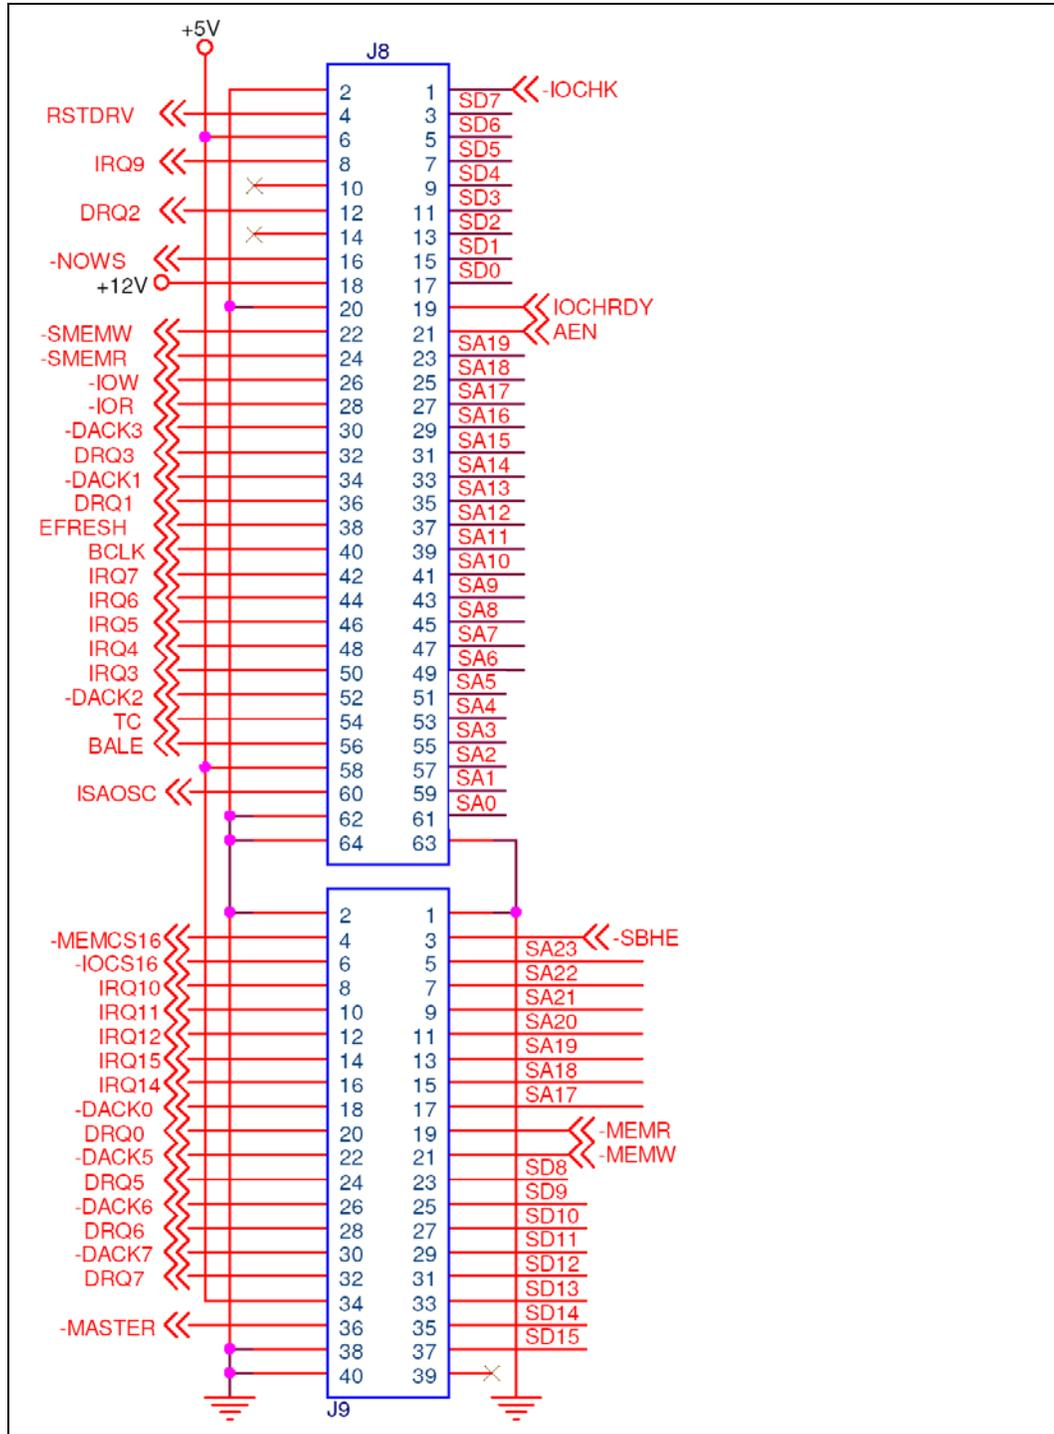

Figure 4-18: PC/104 Slot Location
- CN Location:** See **Figure 4-18**